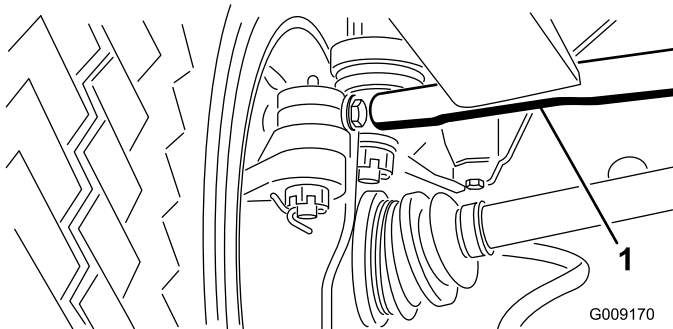

Figure 45
- On the right front wheel, loosen the jam nuts at both ends of the tie rod (Figure 45).